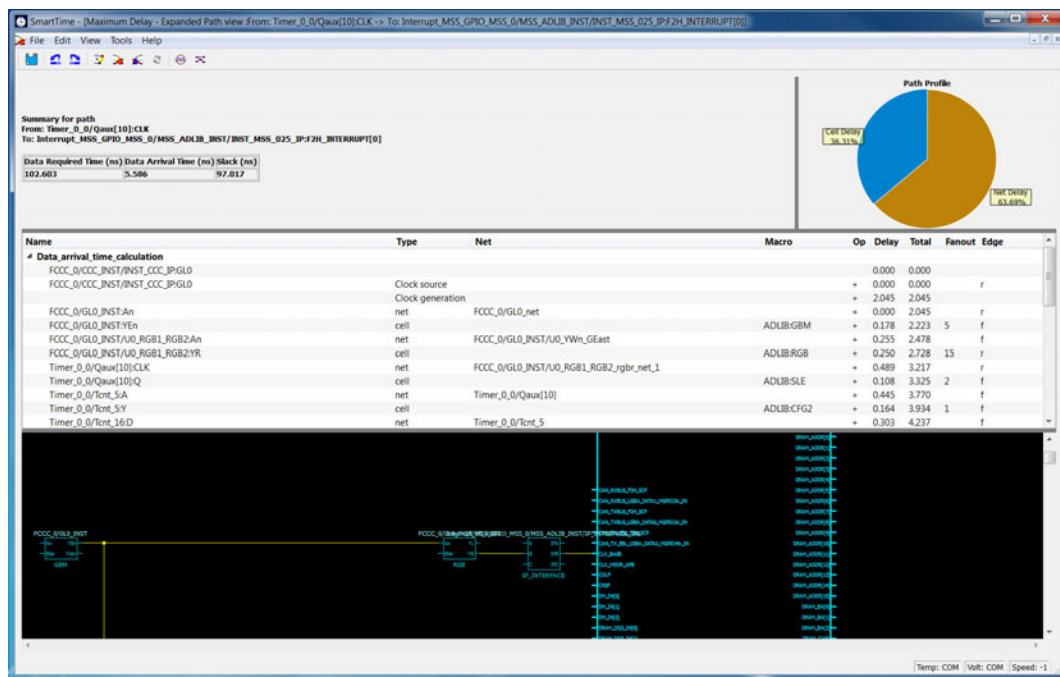

Figure 5-7 • Detailed View of the Register Path in SmartTime
- Double-click one of the source pins to view detailed timing analysis for the selected path in the path details (as shown in Figure 5-7).